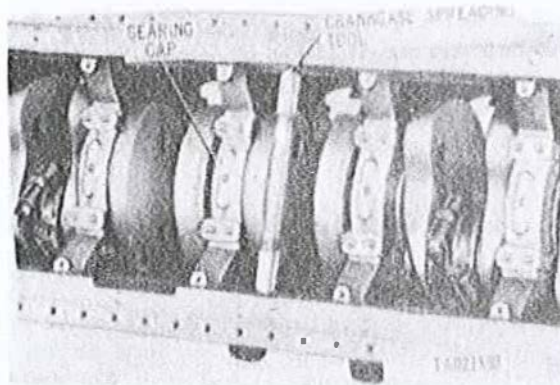

Figure 3-309. Installing main bearing caps using crankcase spreading tool.
i. Coat outer edges of bearing caps, bearing halves and machined surface of the crankcase webs with engine oil to facilitate installation of caps. Install number 4 (center) thrust bearing cap (fig. 3-309) and bearing half in position on crankcase studs. Use crankcase spreading tool 8708361 to spread crankcase so bearing caps will slide over studs and into position in the crankcase.
l. Remove crankcase spreading tool (fig. 3-309). Apply OE engine oil or GAA grease and install two plate washers and four slotted nuts (fig. 3-129) securing main thrust bearing cap (No. 4) to crankcase assembly. Apply OE engine oil or GAA grease